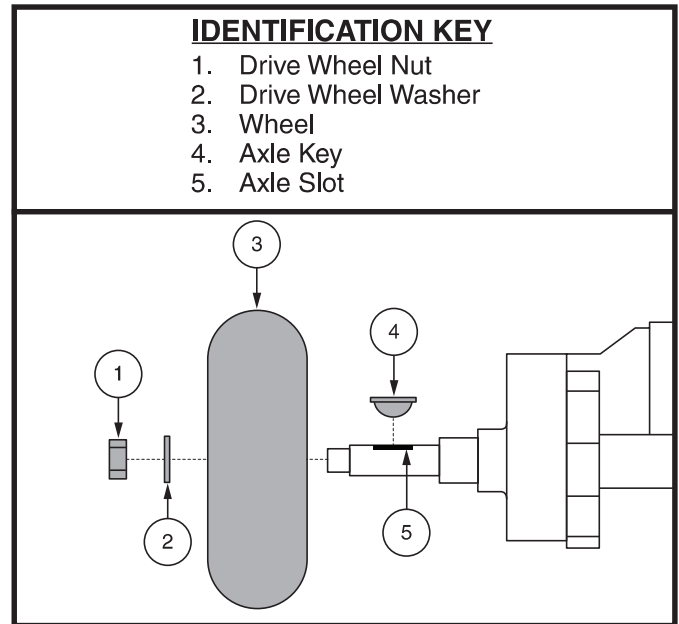

Figure 22. Wheel Replacement
3. Remove the drive wheel nut and washer from the axle. See figure 22.